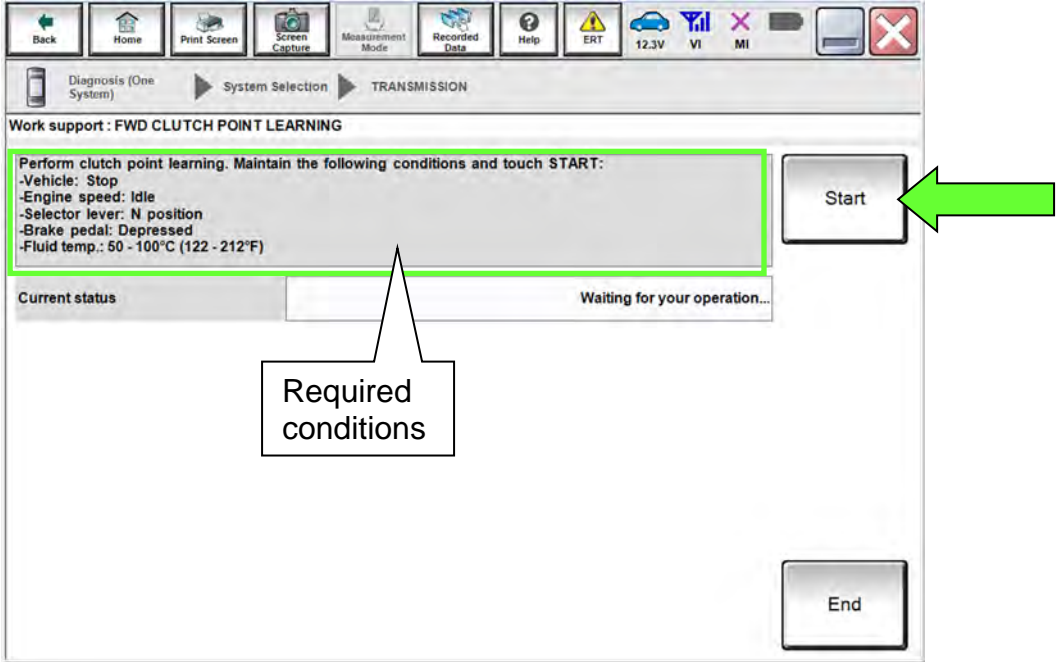

Figure 205
- Confirm that all of the conditions indicated in Figure 205 are being met.
200. While maintaining all conditions shown in Figure 205 and the Current status indicates “EXECUTING”, shift the CVT into **R** and then wait until the Current status indicates **COMPLETED**.